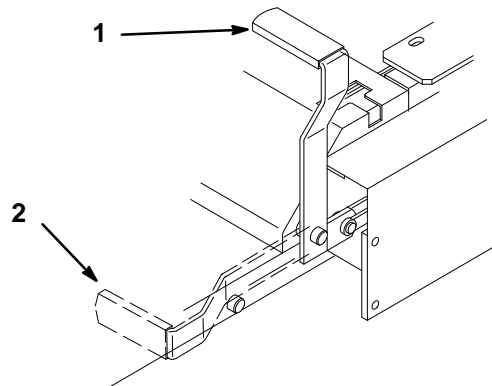

Figure 2
2. Pull back and up on the parking brake lever to set the parking brake (Fig. 2). The parking brake lever should stay firmly in the “ENGAGED” position.
1. Push forward and down on the parking brake lever release the parking brake (Fig. 2). The parking brake is “DISENGAGED” and the lever rests against the front of the opening.